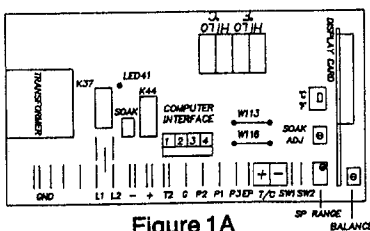
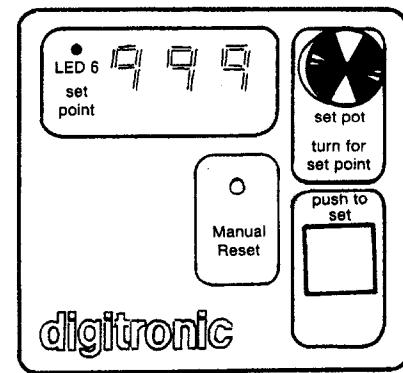

Figure 1A
Figure 1B
2. If the oven temperature is below the setpoint on the display, turn the trim pot marked manual reset located on the front of the control (figure 1B) clockwise. If the oven temperature is above the setpoint, turn reset pot counter clockwise. 1/16 turn of the pot is equal to approximately 1°C (2°F). Wait 5 minutes before making another adjustment. Continue until both read the same.
5. Set reset and soak adjust pots to mid range. See Figure 1A & 1B.
7. Connect digital voltmeter (DVM) from COM (-) J69 Plug Pin #4 to W113 (+). Set millivolt source to 0°C (0.00 mv). Adjust °C lo pot for 0.00V +/- .005V on DVM. Adjust zero pot for 000 on display when LED (6) indicator on the control is off.
8. Set millivolt source to 540°C (29.64 mv). Adjust °C hi for 2.700V +/- .005V on DVM. Adjust F.S. pot for 540 on display when LED (6) indicator is off.
10. Set millivolt source to 260°C (14.11 mv), display should read 260 +/- 1 with LED (6) indicator off.
12. Set millivolt source to 32°F (0.00 mv). Adjust °F lo pot for 32 on the display when LED (6) indicator is off.
13. Set millivolt source to 990°F (29.20 mv). Adjust °F hi pot for 990 on the display when LED (6) indicator is off.
15. Set millivolt source to 500°F (14.11 mv), display should read 500 +/- 1 when LED (6) indicator is off.
16. Connect DVM from COM (-) J69 Plug Pin #4 to W116 (+). Adjust set pot (see figure 1B) for 2.500V on DVM. With set point switch depressed, adjust the balance pot for 500 on display.
17. Adjust the reset pot until the load is cycling 50 percent. The cycle time should be about 1 second +/- ¼ second. LED (41) should cycle with the load.